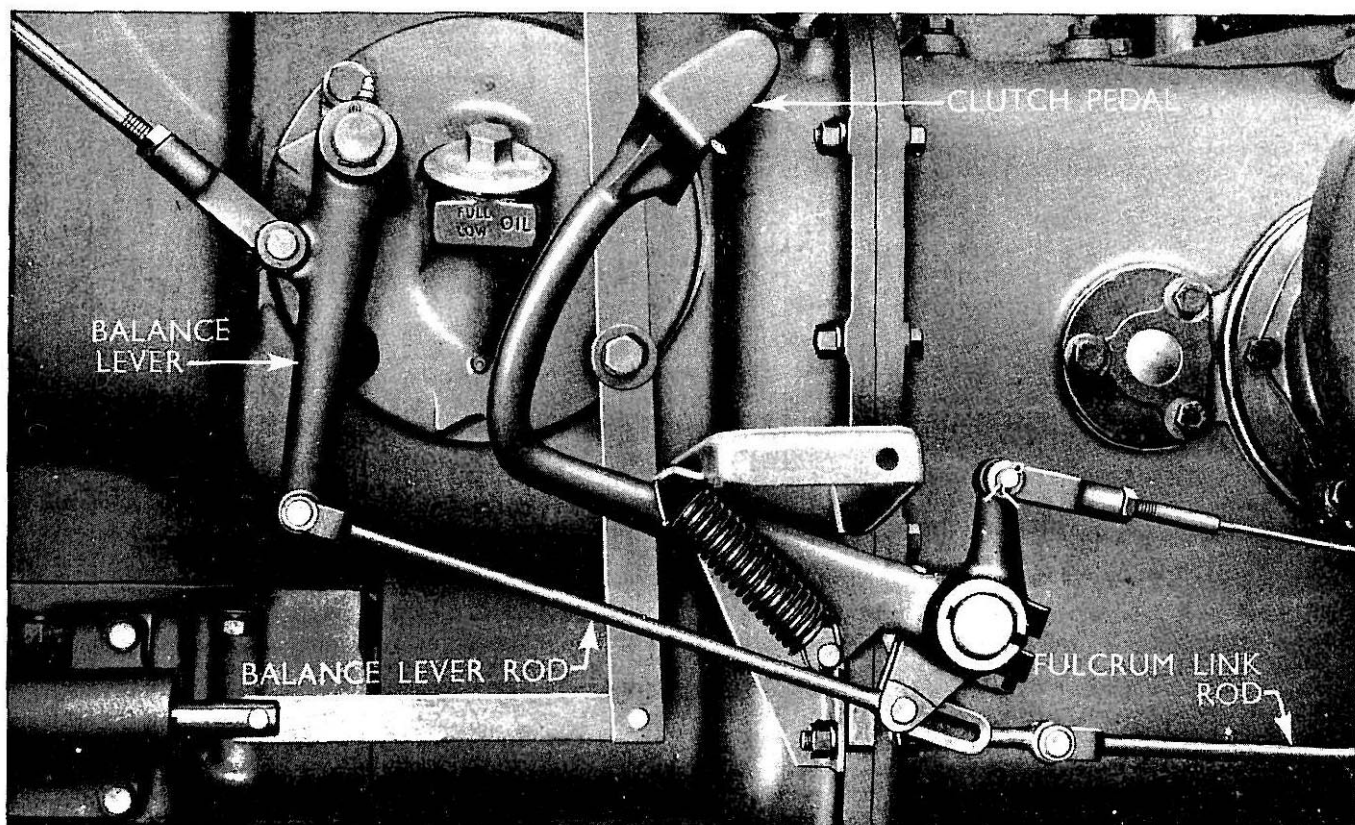

Fig. 153
The cam bears against the outer spring loaded pawl of the release hand lever assembly, and as it is rotated it moves the release lever sector rearwards. The bell crank lever rod is moved rearwards in turn and the clutch is disengaged (see Fig. 153).
- 4 Replace with the slotted rod and fulcrum link, so that the slot in the rod end fits into the forked end of the clutch pedal (see Fig. 153).